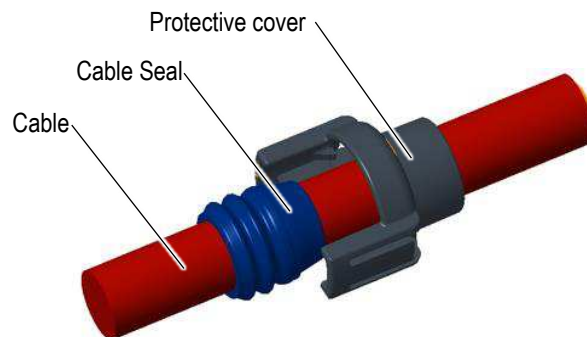

Figure 2
2. Contact cable subassembly. Assemble in the following order – feed cable into the protective cover then install the cable seal as shown in Figure 2.